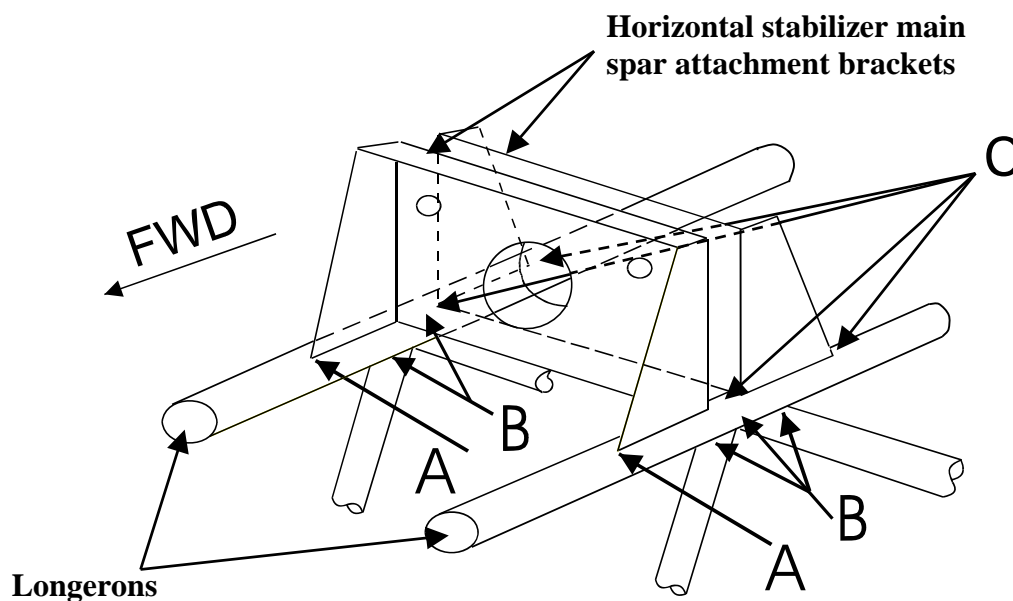

Figure 1: Possible crack locations in typical horizontal stabilizer attachments area.
- Remove fabric from fuselage upper longeron in areas A, B and C as shown in Figure 1.